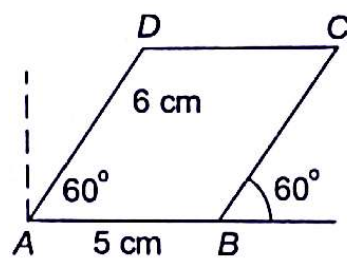

Fig. 8.19
8.4 Figure 8.19 shows a parallelogram of sides 5 cm and 6 cm with included angle of 60° , what is its moment of inertia about base AB?